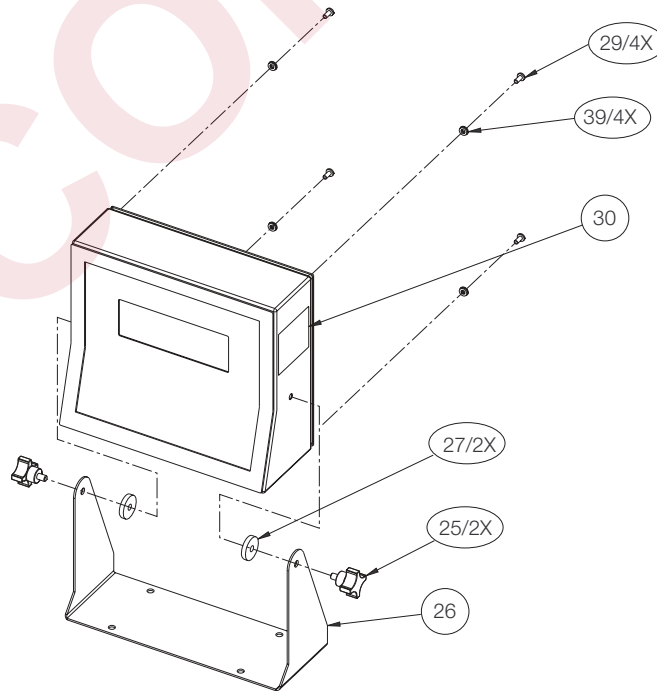

Figure 2-10. Tilt Stand Assembly
| 25         | 68403  | Wing knobs for tilt stand (2)                     | Figure 2-10 on page 12 |